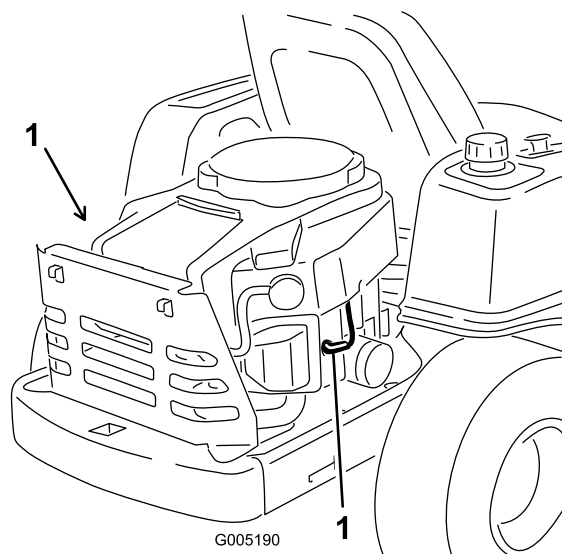

Figure 27
Pull the wire off of the spark plug(s) (Figure 27).
3. Push the wire onto the spark plug (Figure 27).